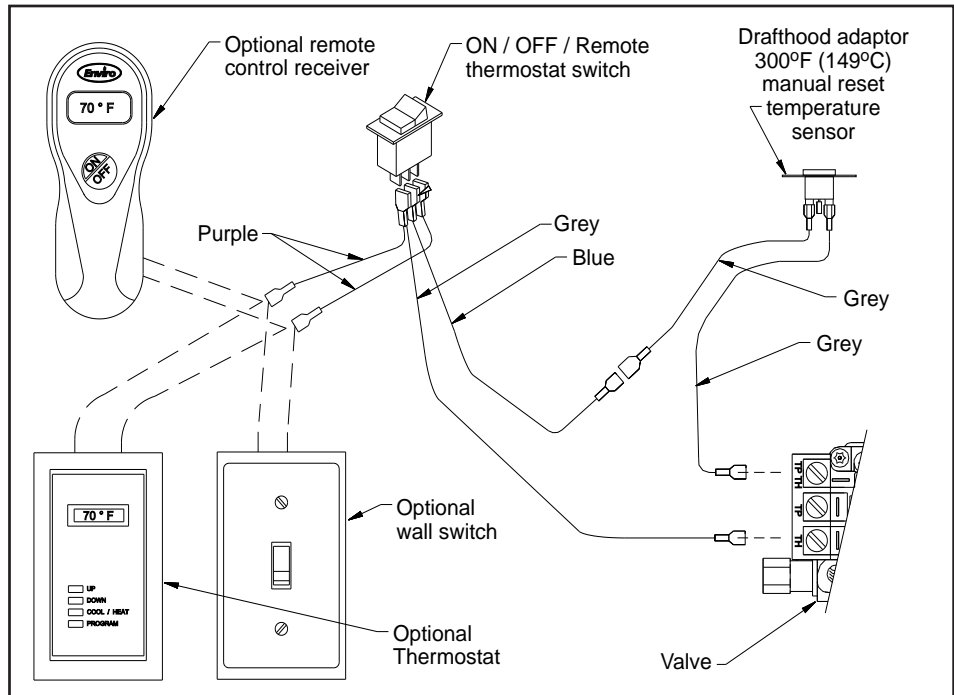

Figure 34: Wiring Diagram for Electrical Connection.
The fireplace connections are labelled in Figure 34. When installing the Drafhhood Adaptor onto a fireplace fitted with an optional wall switch or an optional thermostat, remove one wire from the switch to the gas valve and connect the Drafhhood Adaptor harness as shown.
2. Disconnect the spill switch wires from the valve and on/off/remote rocker switch wire (see Figure 34).